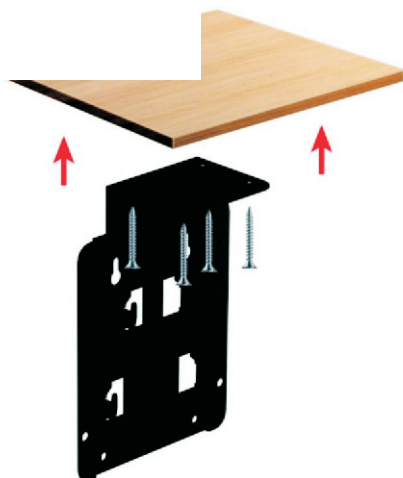

Figure 1
1. If you need to secure the safe under items such as a table, select the four holes in the horizontal plane of the mounting bracket (Figure 1) and use mounting screws to fix the bracket to the table.